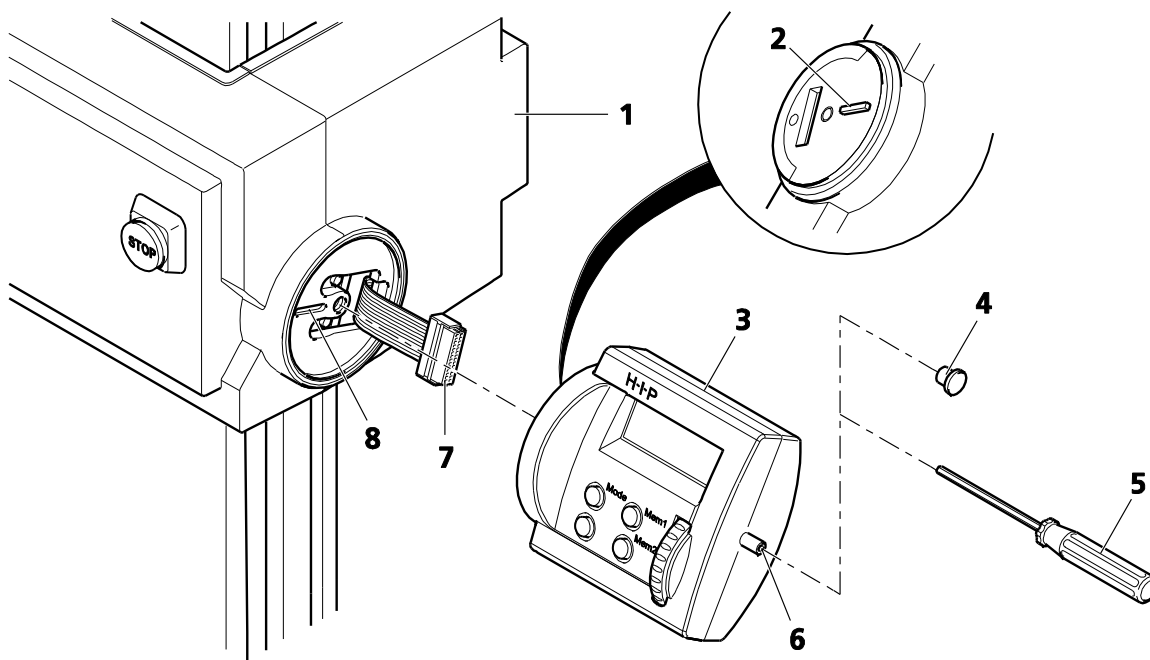

Fig. 19 Installing the HIP control unit
Install the HIP (Fig. 19/3) to the microscope body (zoom function) or to the motorized focusing drive (focus function) by following this procedure:
- Remove the cover (right) from the microscope body (only on SteREO Discovery.V12/V20) or the focusing drive (Fig. 19/1) and the cover cap from the HIP (Fig. 19/4).
- Slightly pull out the connecting cable (Fig. 19/7) without applying force and connect it to the corresponding connector on the HIP.
- Push the cable fully back into the casing without folding it; carefully attach the HIP so that the nose (Fig. 19/2) on the HIP engages with the provided groove (Fig. 19/8).
- Screw in the Allen screw (SW 3) (Fig. 19/6) with the ball-headed screwdriver (Fig. 19/5) as far as it will go.
- Re-attach the cover cap (Fig. 19/4) to the HIP.